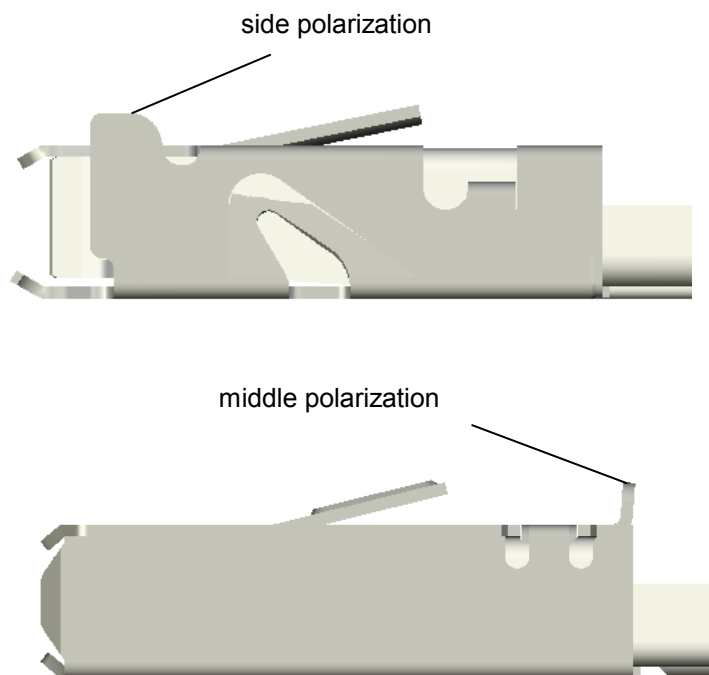

Figure 4: polarization
3.1.4 Polarization versions (see figure 4)